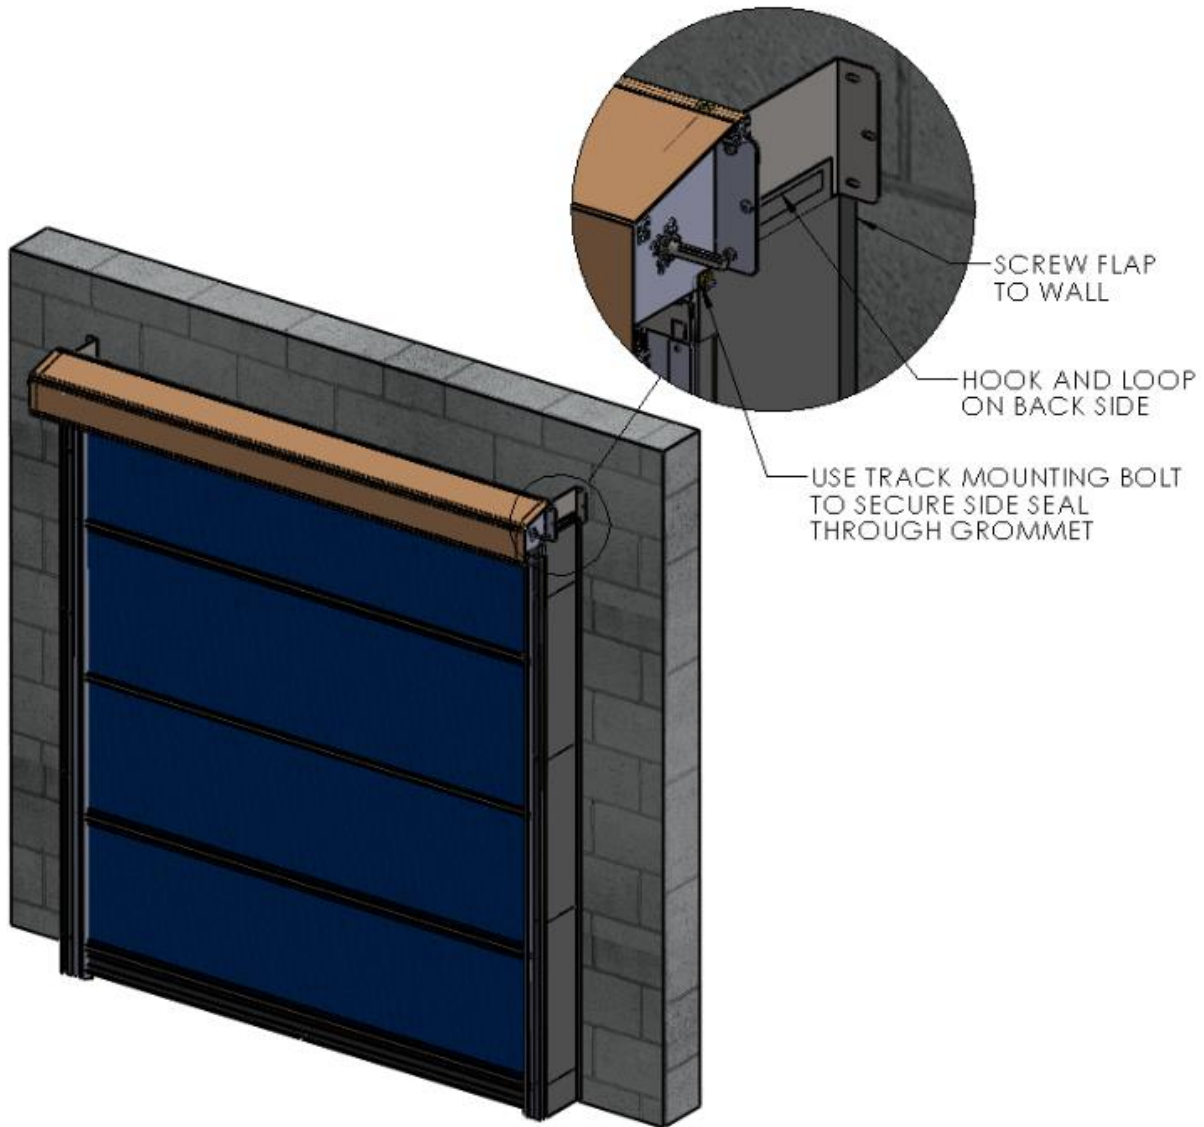

Figure 15 SECURE SIDE SEAL
(Figure 15 SECURE SIDE SEAL)
2. Fold the Side Seal Material to flatten it against the wall, and secure it through the material into the wall with appropriate screws. (Figure 15 SECURE SIDE SEAL)